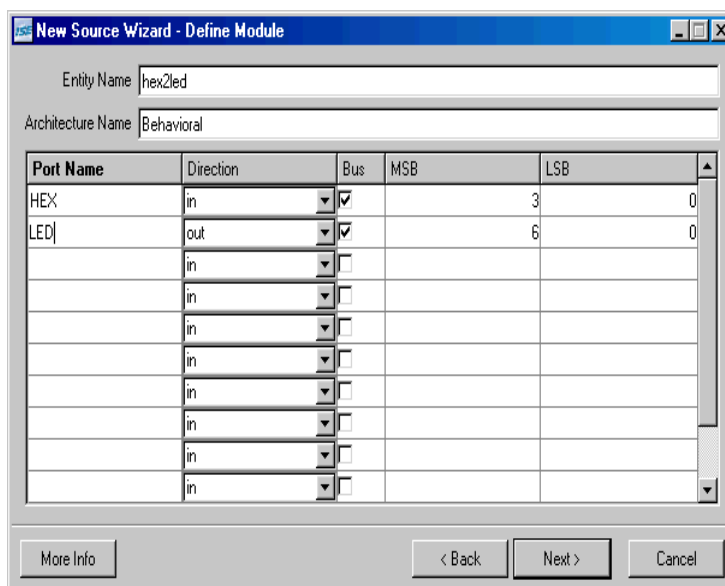

Figure 3-32: New Source Wizard for VHDL
4. In the MSB field enter **3**, and in the LSB field enter **0**. Refer to Figure 3-32.